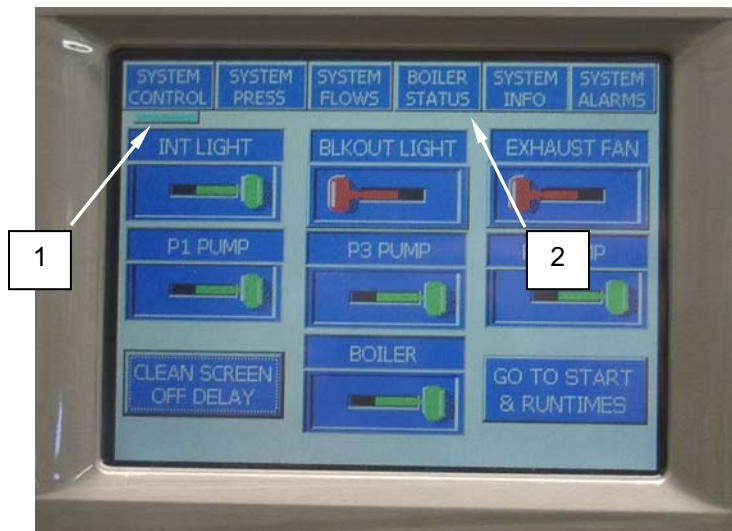

Figure 18. Selecting the Boiler Status Display.
1. When the PLC is powered up, the System Control display (**Figure 18, Item 1**) is presented. If a BOILER STATUS function is desired, touch the BOILER STATUS tab (**Figure 18, Item 2**) to access the screen. An indicator bar or highlight will indicate that the BOILER STATUS screen is presented.